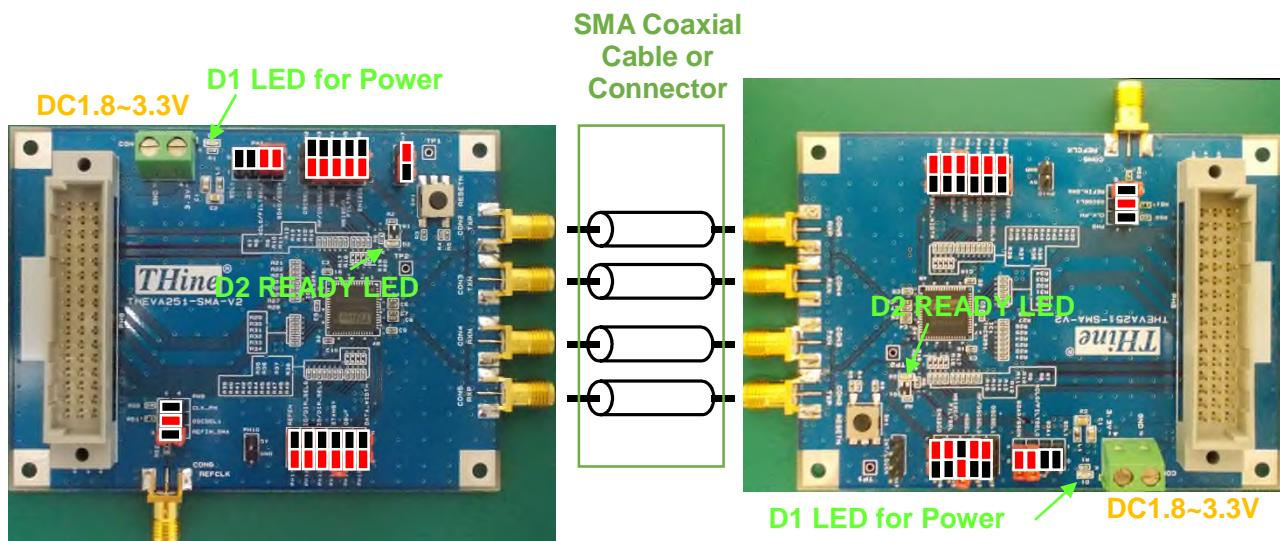

Figure 3 THEVA251-SMA-V3 Quick start pin setting
1.3.1 Connect the master and slave boards with jumper pin settings as shown in Figure 3 using SMA coaxial cables.